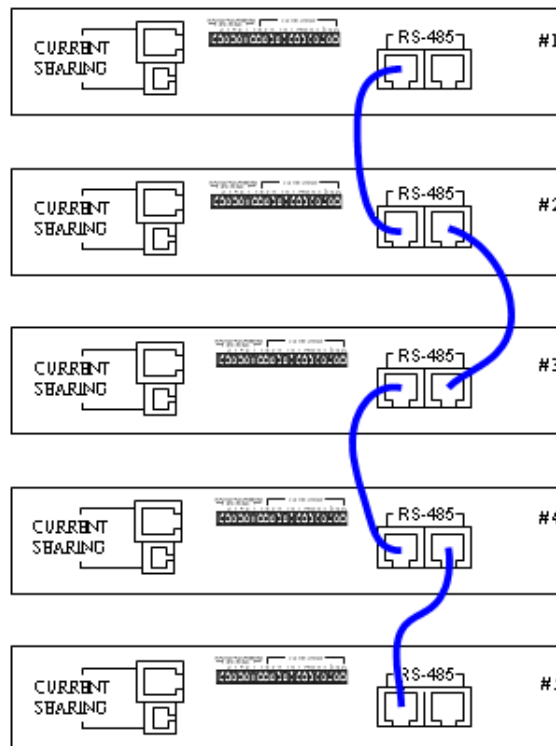
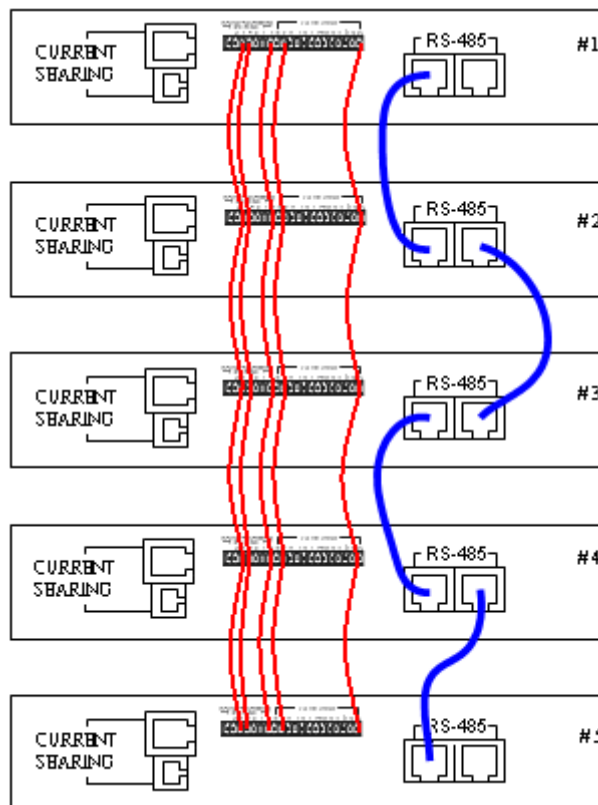
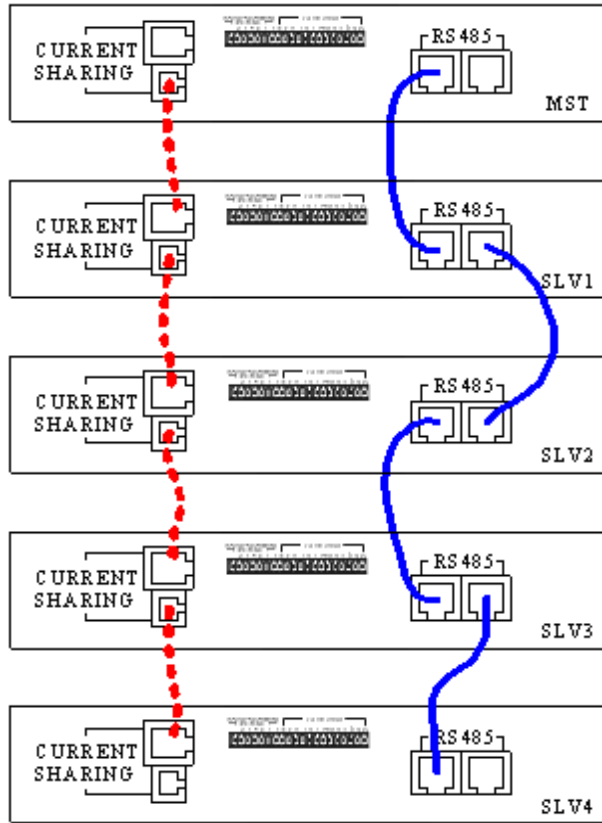
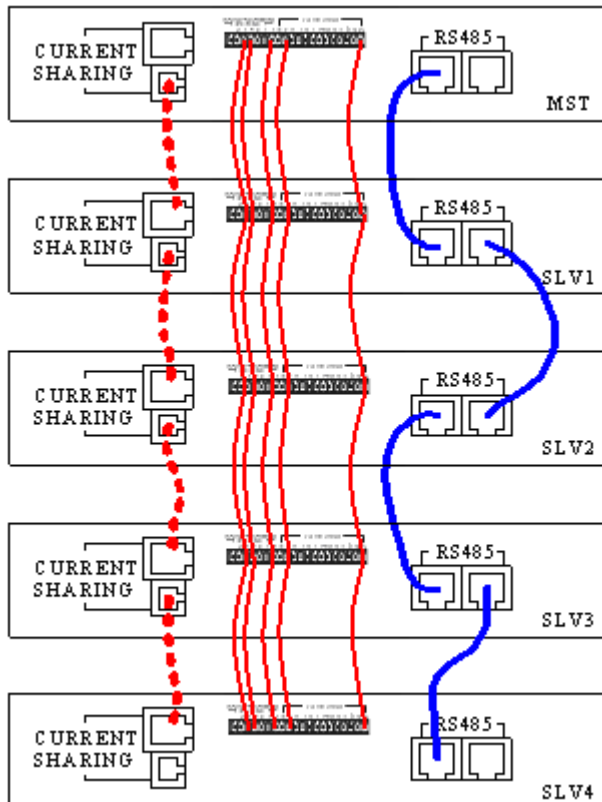

Figure 3-33
Figure 3-34
Figure 3-35
Figure 3-36
1. To operate the Power Supply in series, connect the RS-485 connectors on the rear panel as Figure 3-34 shows. If it is APG control, the PIN3, 4, 7, 9 & 20 of the green signal connector on the rear panel have to connect to the green connector of next device as Figure 3-34 shows.
2. To operate the Power Supply in parallel, besides connecting the RS-485 connectors on the rear panel the **CURRENT SHARING** connector has to be connected as well as Figure 3-35 shows. If it is APG control, the PIN3, 4, 7, 9 & 20 of the green signal connector on the rear panel have to connect to the green connector of next device as Figure 3-36 shows.
① NOTICE
1. Each DC Power Supply has two RS485 interface female connectors. They need to be connected either in series or parallel operation. There is no difference between left and right; just to connect one after another as Figure 3-33 or Figure 3-35 shows in solid line.
2. Each DC Power Supply has two CURRENT SHARING connecting terminals in different outline. Connect the output terminal of the first Power Supply to the input terminal of the second Power Supply and so forth as Figure 3-35 and Figure 3-36 shown in dot line. Be sure to use the CURRENT SHARING communication cable provided by CHROMA.
Connect the cables on the rear panel as Figure 3-33 and Figure 3-34 show when set to SERIES, and as Figure 3-35 and Figure 3-36 show on the rear panel when set to PARALLEL.